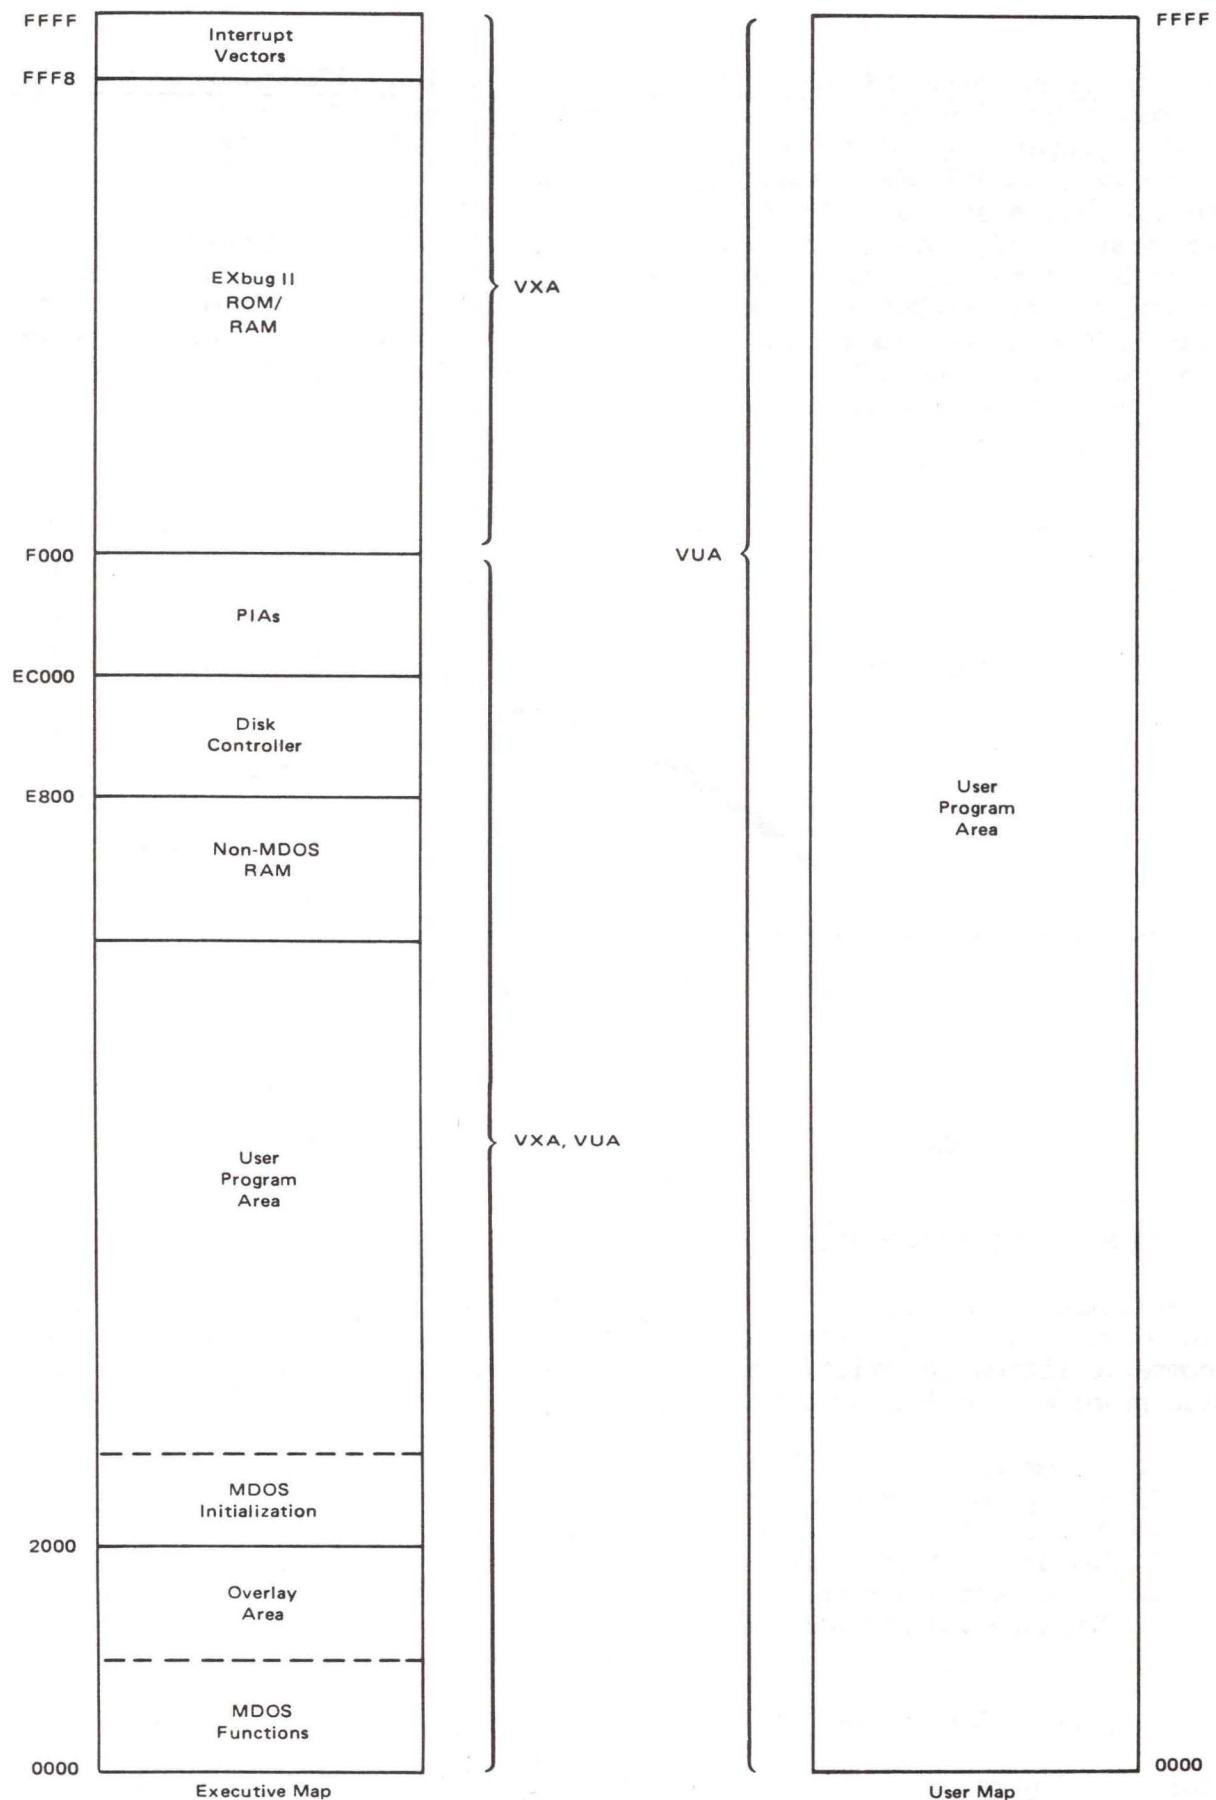

FIGURE E-1. Dual Memory Map for User System
E.1.2.2 EXORciser II. Because some users start their designs and actually have hardware built before they realize they need a development system (or possibly because they do not understand how the EXORciser can be used), the concepts are expanded in EXORciser II to provide a dual map. The DDebug II Module provides the ability to address two separate 64K-maps, as illustrated in Figure E-1. The DDebug II module uses the Valid Memory Address (VMA) signal from the MPU II module and converts it to two signals -- Valid User Address (VUA) and Valid Executive Address (VXA). The memory and I/O modules for this system have jumpers which allow them to be used with either signal, thus providing two complete maps. EXbug resides in the executive map, along with the floppy disk controller and printer interface, leaving the entire user map available. A switch is provided on the DDebug II module to select single map mode and can be used in the same way as EXORciser I. All memory above \$F000 is enabled by VXA; all memory below \$F000 is enabled by VUA.